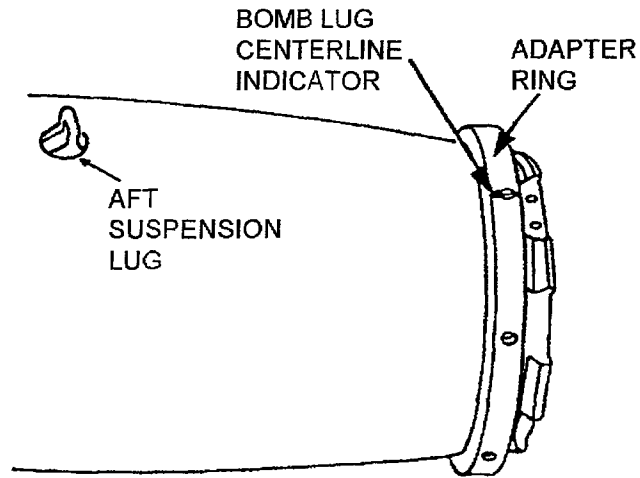

Figure 5-9B. Adapter ADU-320A/B Removal
- a. Loosen all setscrews on circumference on bomb fin adapter. Carefully disengage adapter from bomb (Figure 5-9B). Retain bomb fin adapter for repackaging.